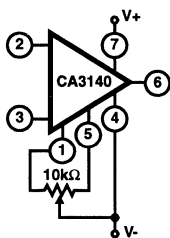
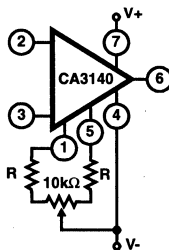

FIGURE 3A. BASIC
FIGURE 3B. IMPROVED RESOLUTION
The input offset voltage can be nulled by connecting a $10k\Omega$ potentiometer between Terminals 1 and 5 and returning its wiper arm to terminal 4, see Figure 3A. This technique, however, gives more adjustment range than required and therefore, a considerable portion of the potentiometer rotation is not fully utilized. Typical values of series resistors (R) that may be placed at either end of the potentiometer, see Figure 3B, to optimize its utilization range are given in the Electrical Specifications table.